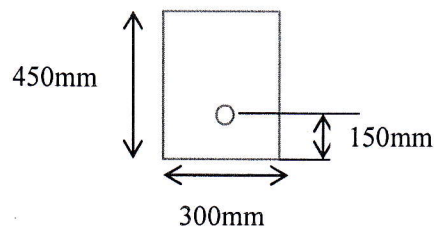

**Fig: 6**
7. Refer to the **Fig: 6**, A 24"x24" column carrying working loads of DL = 300 k, and LL = 180 k is underlain by soil with allowable bearing capacity = 2 ksf. The column also carries biaxial moments (due to LL) of  $M_x = 120$  k-ft and  $M_y = 160$  k-ft. Design the pile foundation by WSD method. [Given:  $f'_c = 3$  ksi,  $f_y = 50$  ksi,  $\alpha_2 = 0.8$ ].